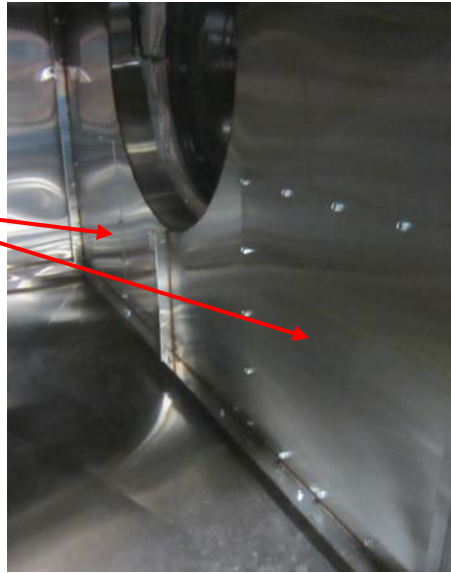

Figure 6-2-1
2. There are up to a total of six spring isolators, one on each of the four corners and possibly two more in the mid-section of the fan. The four on each corner are factory screwed down to help secure the fan during shipment. The two isolators at the motor end can be easily reached for adjustment. The two on the wheel end of the fan are accessed through the fan inlet plenum chamber by removing the two access panels in the chamber (Refer to Figure 6-2-1). Once the access panels are removed back off the leveling bolts on all four isolators until the fan is level and floating freely.